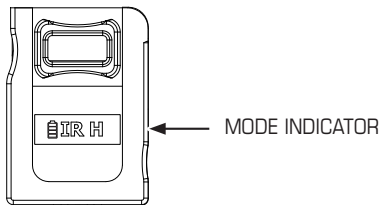

Figure 3.5-1 Display Features
- Step 2.)** Rotate the Mode Selection Knob to select the desired mode of operation. When the power is on in any mode, the Display illuminates. The active mode of the laser appears on the display (see Figure 3.5-1). If the *RAID Xe* display indicates that a low battery condition exists when powered on, replace the battery as described in Section 4.2.